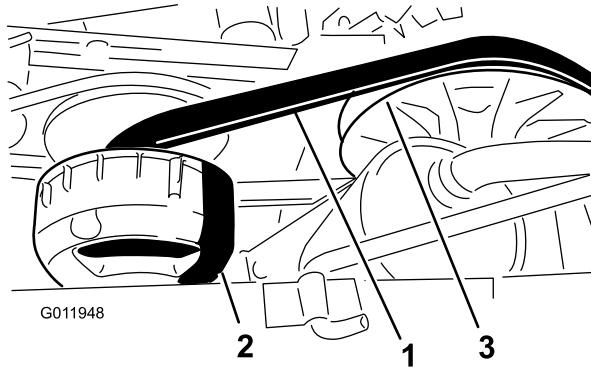

Figure 45
3. Rotate and inspect the belt (Figure 45) for excessive wear or damage. Replace the belt if necessary.
1. Rotate and route the belt over the secondary clutch (Figure 45).
2. Remove the belt from the primary clutch (Figure 45).